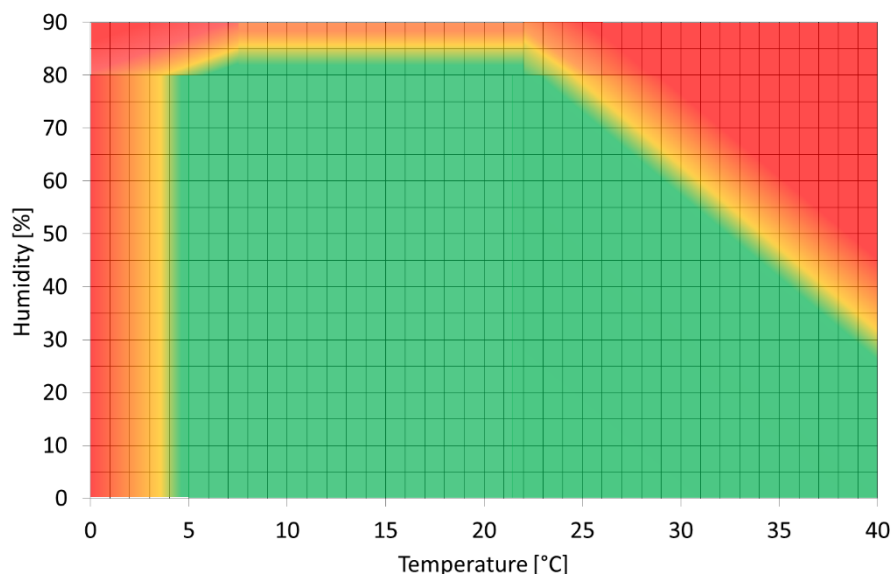

Figure 1 Suggested application window for SikaForce®-800 RED (ambient temperatures)
- ⚠ High ambient temperatures in combination with high humidities may cause foaming of the product, especially if applied in very thin layers (see *Figure 1* and 2)